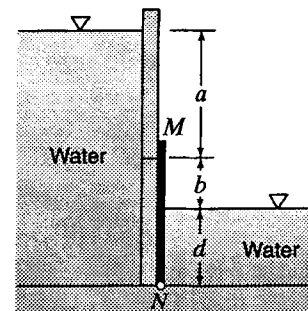

Figure X3.7.10
3.7.10 The gate MN in Fig. X3.7.10 rotates about an axis through N. If $a = 3.3$ ft, $b = 1.3$ ft, $d = 2$ ft, and the width perpendicular to the plane of the figure is 3 ft, what torque applied to the shaft through N is required to hold the gate closed?